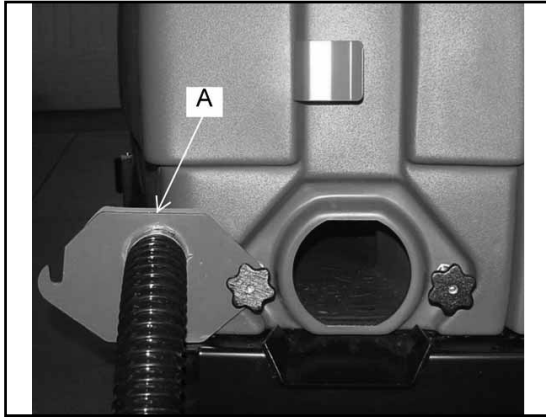
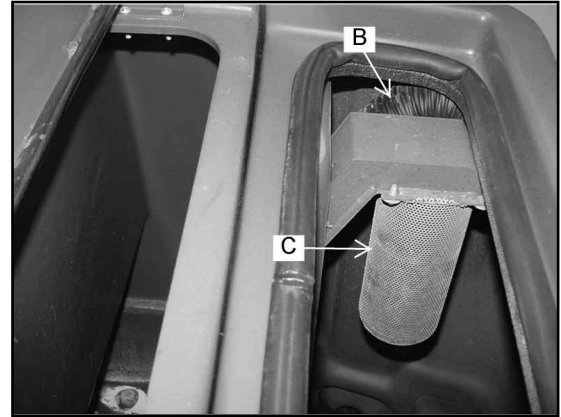
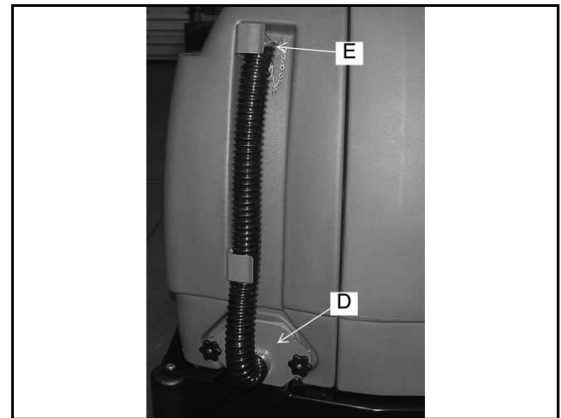

FIGURE 46
FIGURE 47
FIGURE 49
When the draining operation is complete, open the recovery tank clean out door (A) as shown in figure 46 and flush the recovery drain hose (B) as shown in figure 47 & 48. Clean the recovery tank and recovery tank screen (C) as shown in figure 47. Close the recovery tank clean out door (D), drain hose plug (E), the recovery tank lid and clip the drain hose into place as shown in figure 49.